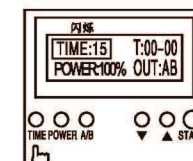

figure2
3. Press the "TIME (TIME)" button, display the TIME will be flashing, at this TIME can pass (▲) on the down (▼) button to adjust TIME, each TIME you press the increase or decrease 1 minute, the biggest adjustment TIME for 30 minutes, can according to need to set the whitening TIME, finished setting and then press "TIME (TIME)" to determine the setting TIME. As shown in figure 2 below: